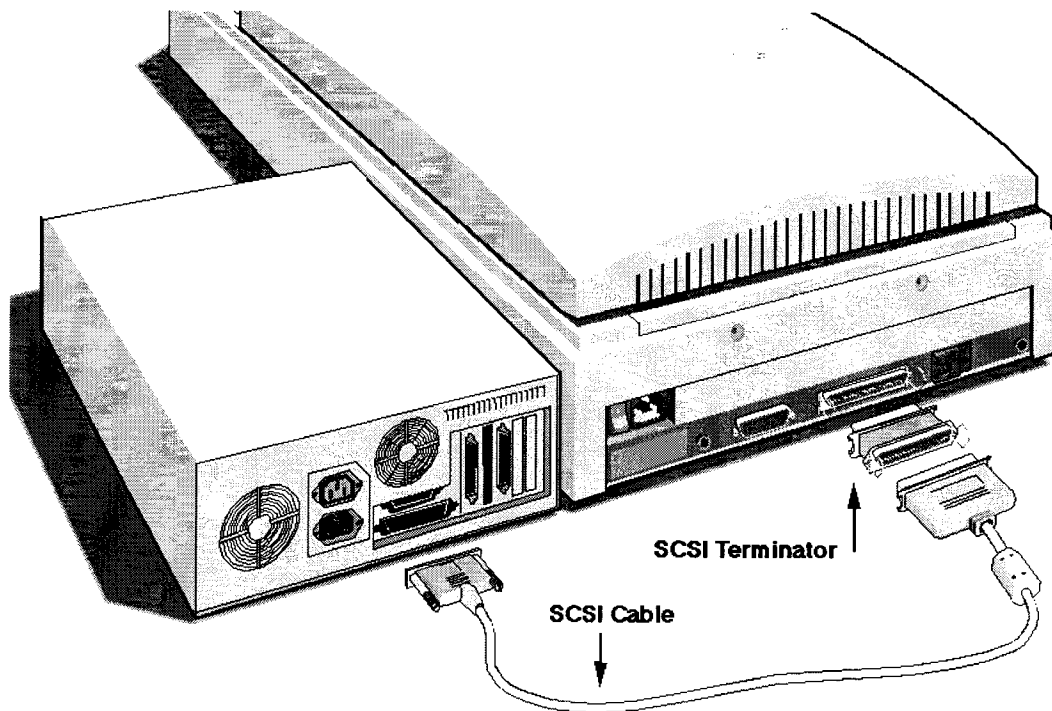

Fig. 3.5
1. Connect one end of the SCSI cable to the SCSI port at the rear of your PC (Figure 3.5).